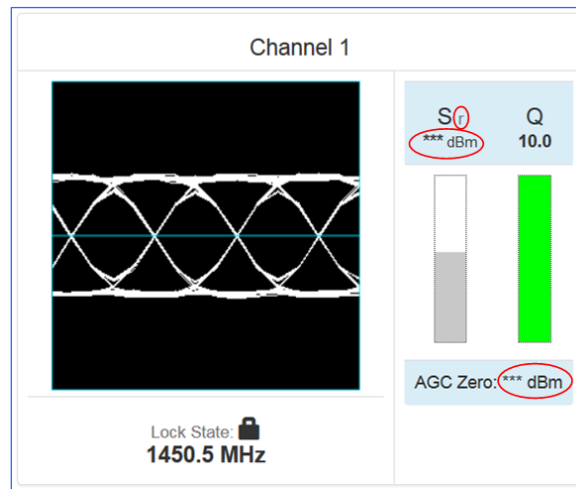

Figure 204: Signal Graph and Signal Indicators Windows, Zero AGC Signal Display “Relative”
- “*** dBm” displayed (Figure 204) indicates AGC is not zeroed and the value is invalid